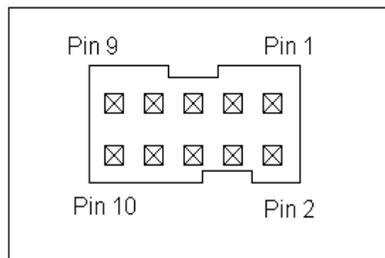

Figure 3: 10-pin IDC connector (Front View: Digi-Key part A33159-ND). Mates with Digi-Key part HKC10H-ND or similar.
- TTL Input Connector – 10-pin IDC header. *Must be 3.3V **NOT** 5V!* The input impedance is 100 Ω . The deblanking signal should be connected to pin 8 of the IDC connector (with pin 7 as the corresponding ground). See Figure 3 above for pinout information.